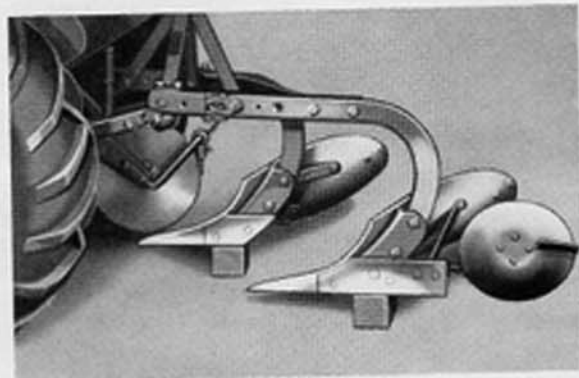

Fig. 14A
2. Block up under each plow bottom (use the same size block for each bottom) at the position of the lower beam bolt hole, with the landside resting on the block, see Fig. 14a. No other part of the plow bottom should touch the block.
2. Block up under landside with the block immediately under the lower beam bolt that goes through the landside, similar to that shown in Fig. 14a.